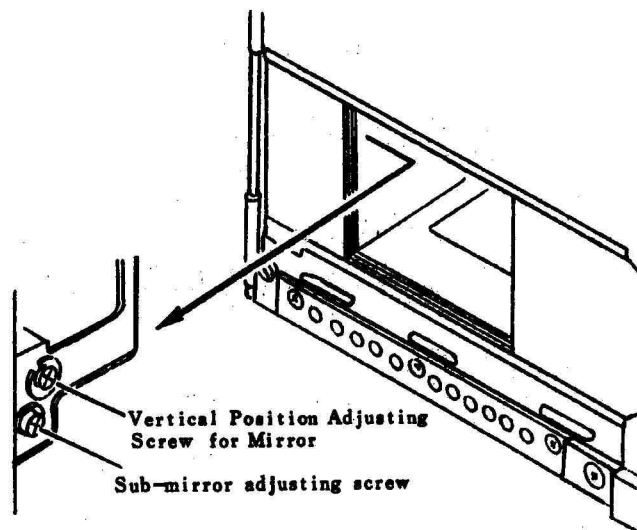

Fig. 184
- ⑤ Unlock the mechanical cable release, and the shutter will be closed.
- ⑥ Turn the S. Charge Cam Ass'y counterclockwise, and the mirror will return.
- ⑦ Check finder focusing again.
- ⑧ If finder focusing is not proper, follow the procedure ② to ⑦ again.
- ⑨ Check finder parallax.
- ⑩ Adjust the spot metering position.
- ① Install a mechanical cable release in the Bulb-dedicated Cable Release Socket.
- ② Turn on the main switch and lock the mechanical cable release by pressing.
- ③ Press the release button on the camera, and the shutter will be opened.
- ④ From the aperture side, turn the vertical position adjusting screw for the mirror. (See Fig. 184)
- ⑥ Check finder focusing again.
- ⑦ If finder focusing is not proper, follow the procedure ① to ⑥ again.
- ⑧ Check finder parallax.
- ⑨ Adjust the spot metering position.
(See Fig. 184)